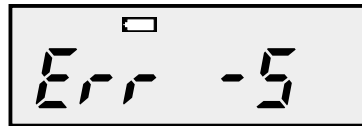

Fig.2
- If you have low battery, the display shows “Err-5” as Fig.2 and the scale is off automatically.